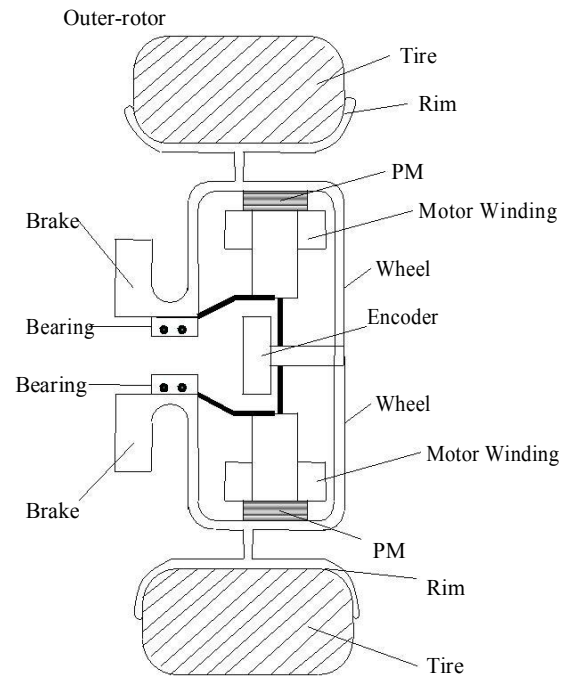

Figure 6b: Outer rotor *In Wheel* drive [1]
- In case outer rotor motor is used (**Figure 6b**), then the transmission can be totally removed and the outer rotor acts as the wheel rim and the motor speed is equivalent to the